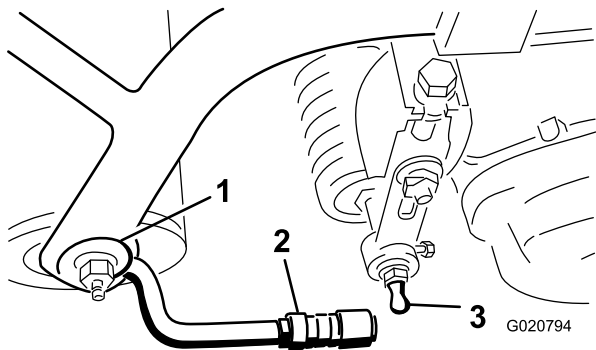

Figure 8
3. Slide the sleeve back on the ball joint receiver and hook the receiver onto the cutting unit ball stud. Release the sleeve so it slides over the stud and locks the assemblies together (Figure 8).